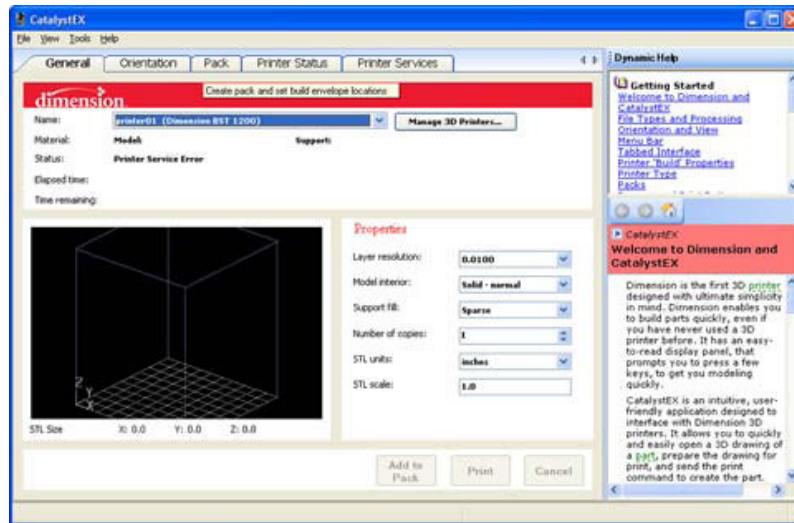

Figure 14: CatalystEX main window
2. Click on the CatalystEX icon  on the desktop of your PC. The CatalystEX main window opens (Figure 14 on page 42).